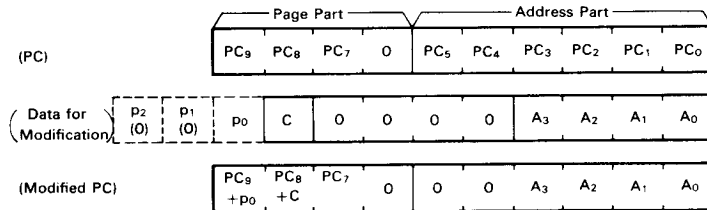

Figure 8 Modification of Program Counter by TBR Instruction
TBR modifies the PC in the same way as the pattern instruction (P) does. The method for modification is shown in Figure 8.